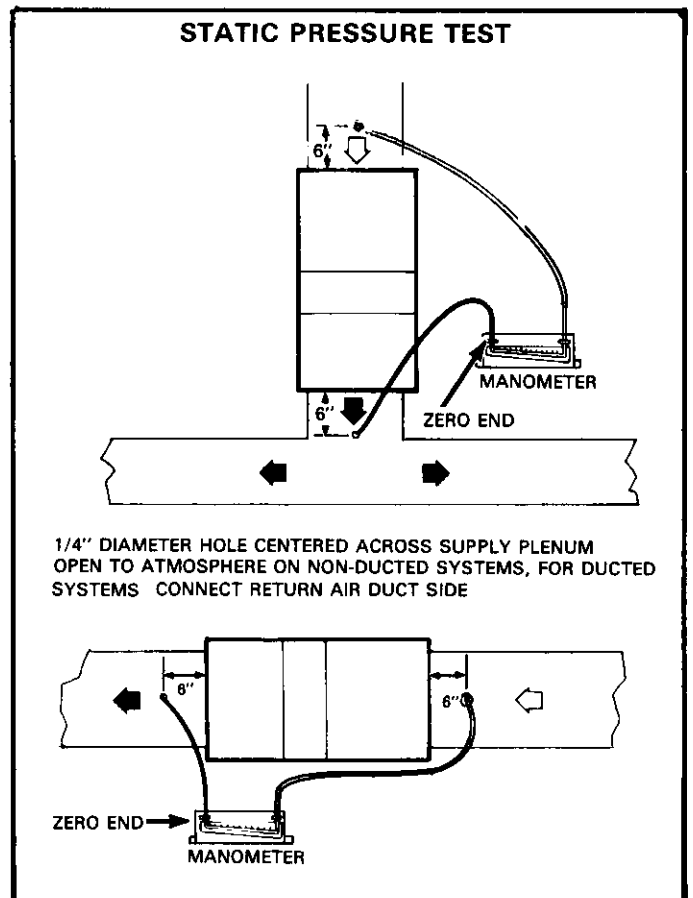

FIGURE 30
- 1 - Measure tap locations as shown in Figure 30.